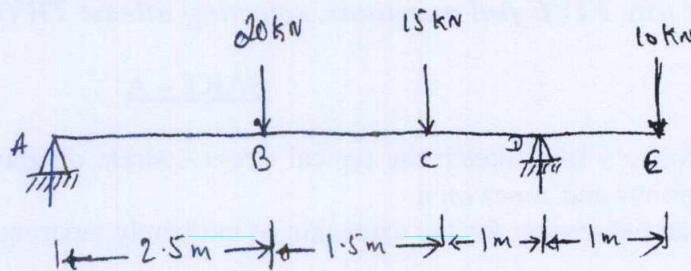

Fig.Q5(b)
- b. Draw the shear force and bending moment diagram for the beam shown in fig. Q5(b). Locate the point of contra flexure. (15 Marks)